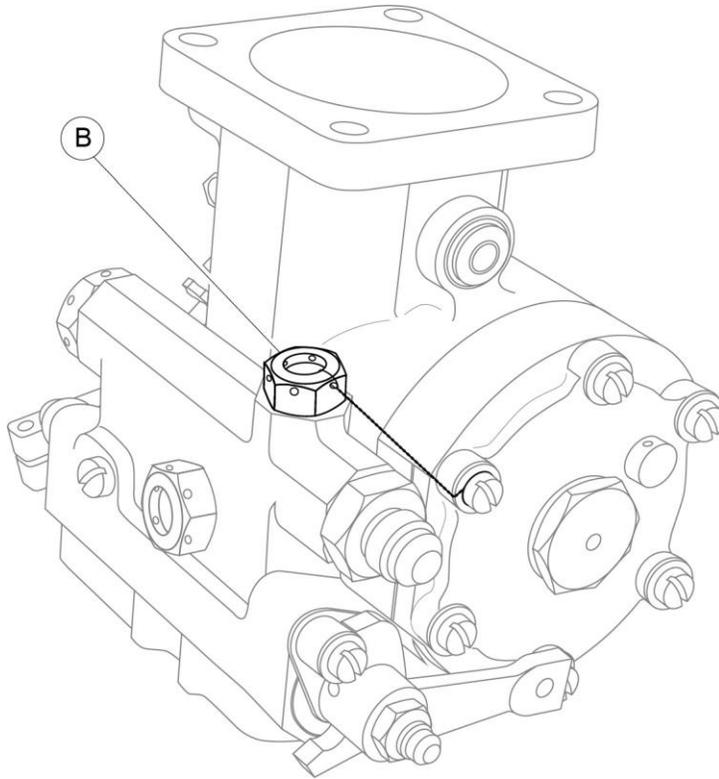

Figure 2: Plug (P/N AV132906) with O-Ring (P/N AV951787) installation of IO-360-B4A
2. Install a new O-Ring (P/N AV951787) and Plug (P/N AV132906) (**B**) as shown in Figure 2 onto the Fuel Servo.